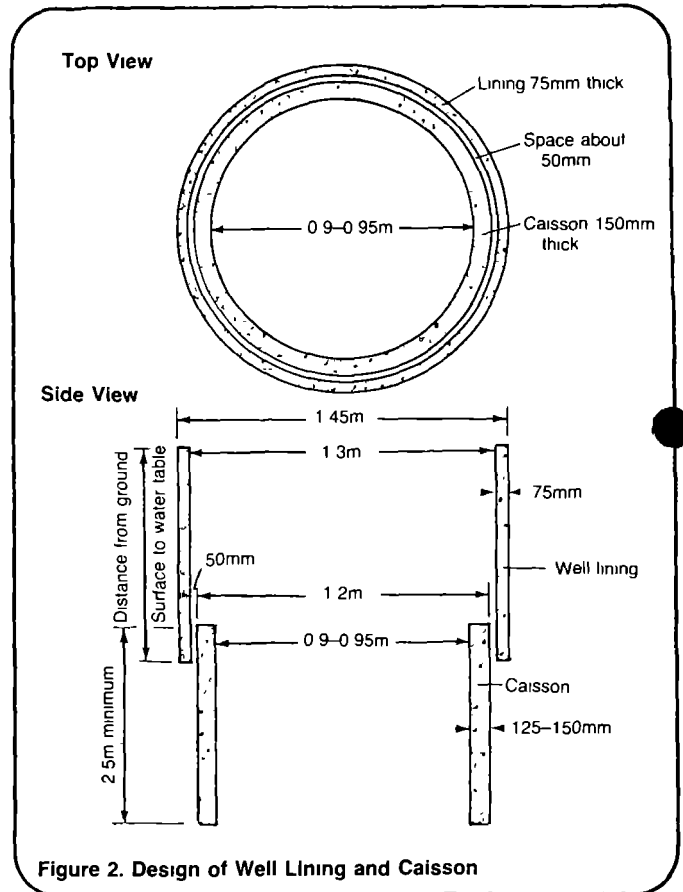

Figure 2. Design of Well Lining and Caisson
2. A design drawing similar to Figure 2.